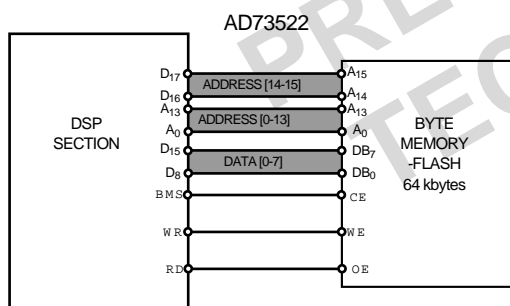

Figure 22. Flash Interface to DSP section
The flash memory section of the AD73522 is configured on the byte-wide DMA bus (BDMA) of the DSP section as shown in Figure 22. Hence if boot operation is required from the AD73522's internal flash memory, the boot mode selection pins Mode A, Mode B and Mode C should be set to zero (0).